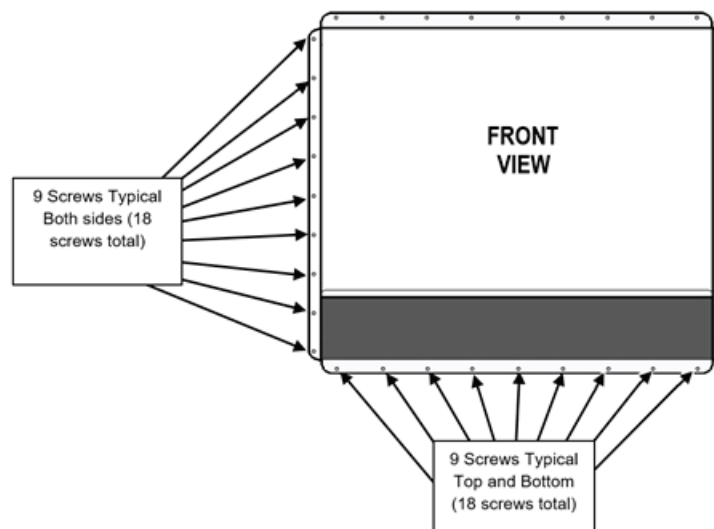

Figure 42c – Hood / Rail Assembly
6. With the 1/4" bit installed in the power driver insert the 36 screws through the exhaust hood holes and into the cabinet per Figure 42c.